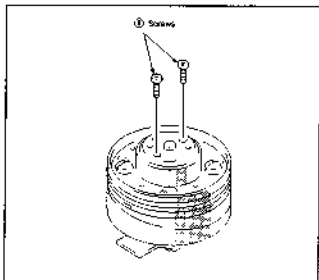

Fig. 28
- 1) Remove the two screws ① (Fig. 28).
- 3) Remove the jig ② and push down the rotary upper drum ⑤ gently by hand. If it does not go all the way down, secure it temporarily by tightening the two screws ① alternately (Fig. 28).
- 4) Tighten strongly both two screws ①, and loosen both screws once, then tighten them again (for stable seating)
- 5) Insert the jig ② into the positioning hole ⑦ again and confirm that it goes in smoothly. If it does not, loosen the two screws ①, repeat step 2) of the Removal paragraph and restart the setting procedure.
- 6) Tighten the screws ①.